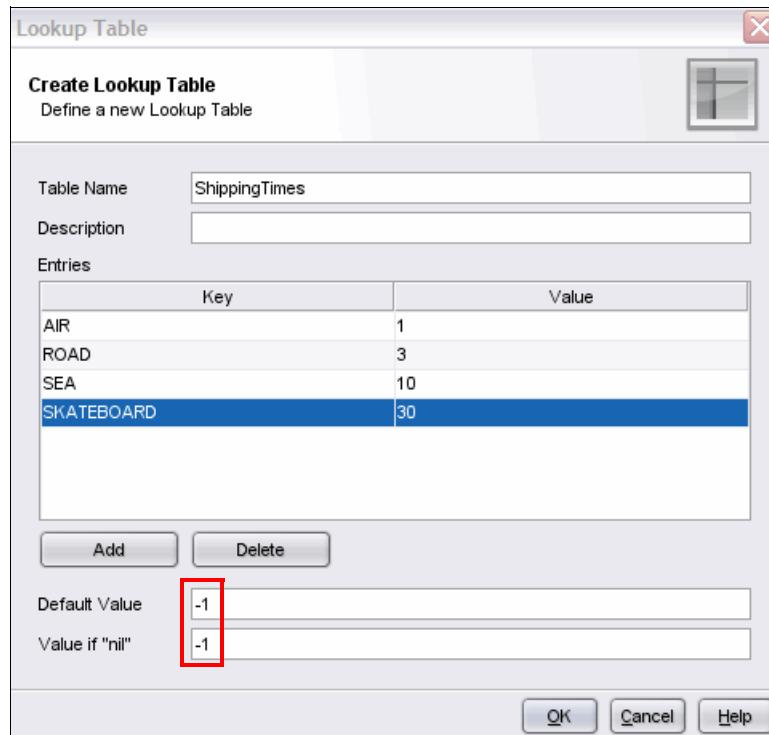

Figure 12-36 Setting up the lookup table
3. In the Create Lookup Table window, enter -1 for both the Default Value and Value if “nil” fields, as shown in Figure 12-36.